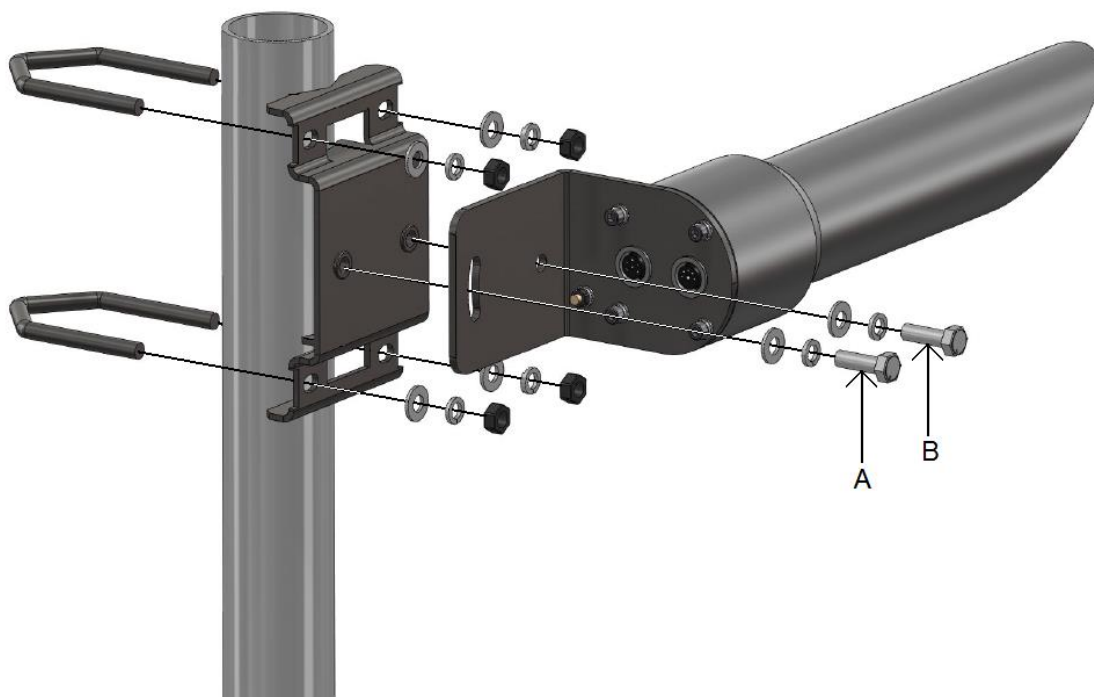

Figure 4-1. Mounting the CS140 onto a pole
1. The mounting plate is supplied ready fixed to the CS140. Offer up the plate to the pole and present the brackets and bolts from the other side of the pole to fit into the matching holes of the plate as shown in Figure 4-1.
The machine screws A and B in Figure 4-1 are used to level the CS140. Screw A is used to lock the CS140 at the right elevation with screw B acting as a pivot. Usually this will be with the hood horizontal which gives a field of view elevated by 6 degrees.